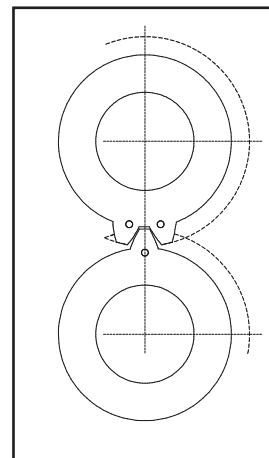

Figure 22
f) Fit clamp washers (26) and Screws (27). Tighten screws and check that shaft is free to turn but with some resistance. If shaft is very tight remove shims to reduce pre-load. If shaft can be moved from side-to-side, add shims to increase pre-load.
h) Fill space between bearings on shaft with grease - see Section 3 - and fit bearing shields. Re-fit shaft in it's correct bore in bearing carrier. Fit outer race shims and bearing retainer with a new O-ring (3). Fit clamp washers and tighten screws.
j) Fit gear spacers (8) and adjust timing (not required for scimitar rotors) as in Section 6.12
a) Fit timing gears to shafts - ensure marks are aligned as Figure 22. Fit rotors but do not fit rotor case or rotor retainers. Do not fit gear nuts (12) yet.